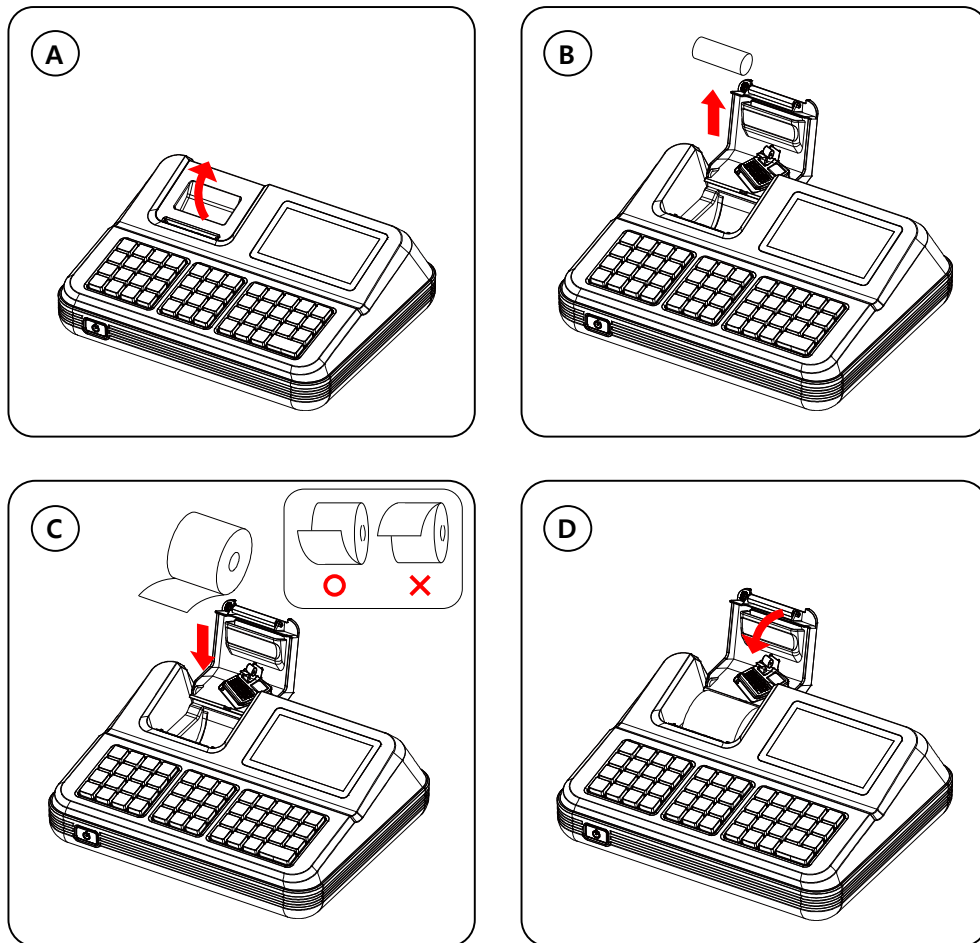

Figure 3-2 Paper Installation
1. Hold the handle and open the Cover Printer in the direction of the arrow.(Fig 3-2 (A))
2. Remove the used paper roll core if there is one.(Fig 3-2 (B))
3. Insert the paper roll as shown.(Fig 3-2 (C))
5. Close the Cover Printer in the direction of the arrow until it locks firmly.(Fig 3-2 (D))